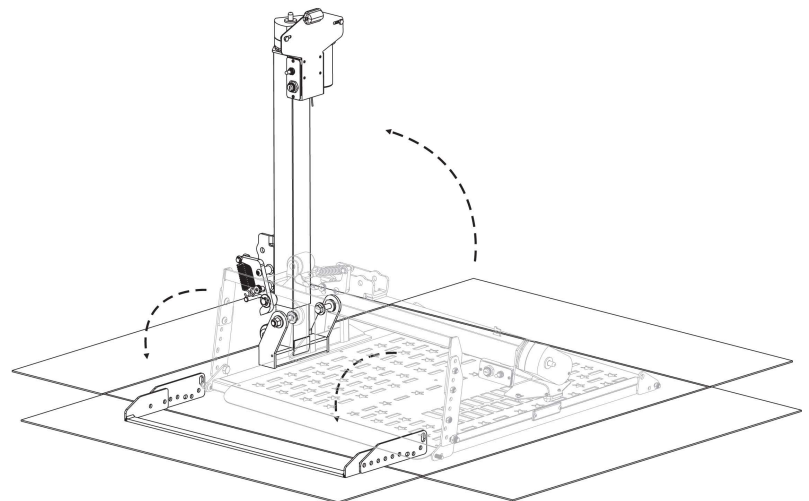

Figure 14-3
5. When extended 3" or more flip up to vertical. [Figure 14-3]